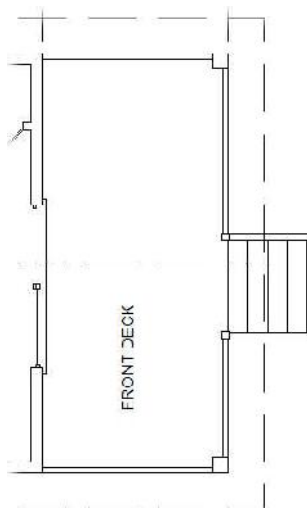

FIGURE 12.22: The result of zooming and panning for a view of the right side of the floor plan
2. Pan and zoom to get a good view of the right side of the floor plan, including the front deck (see Figure 12.22).